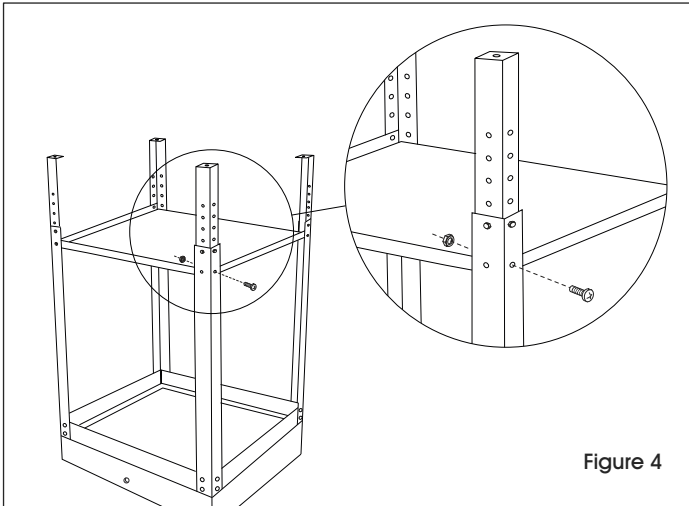

Figure 4
5. Attach bottom shelf to legs using 4 long bolts and 4 nuts. Bolts should pass through legs, adjustable feet, and shelf. (See Figure 4)